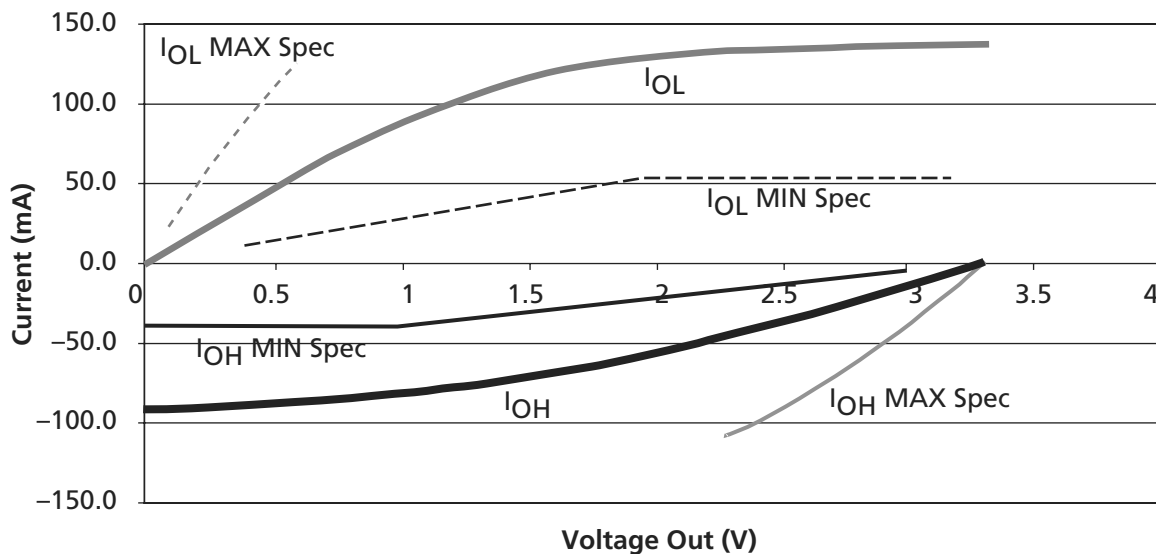

Figure 2-2 • **3.3 V PCI V/I Curve for SX-A Family**
1. Refer to the *VII* curves in Figure 2-2 on page 2-7. Switching current characteristics for REQ# and GNT# are permitted to be one half of that specified here; i.e., half size output drivers may be used on these signals. This specification does not apply to CLK and RST#, which are system outputs. "Switching Current High" specifications are not relevant to SERR#, INTA#, INTB#, INTC#, and INTD#, which are open drain outputs.
2. Maximum current requirements must be met as drivers pull beyond the last step voltage. Equations defining these maximums (C and D) are provided with the respective diagrams in Figure 2-2 on page 2-7. The equation defined maximum should be met by design. In order to facilitate component testing, a maximum current test point is defined for each side of the output driver.
Figure 2-2 shows the 3.3 V PCI V/I curve and the minimum and maximum PCI drive characteristics of the SX-A family.